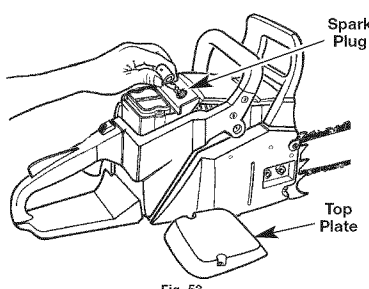

Fig. 53
2. Use the multi-purpose tool to remove the two retaining screws from the top plate (Fig. 53). Remove the top plate.
3. Disconnect the wire connector from the spark plug by pulling and twisting at the same time (Fig. 53).